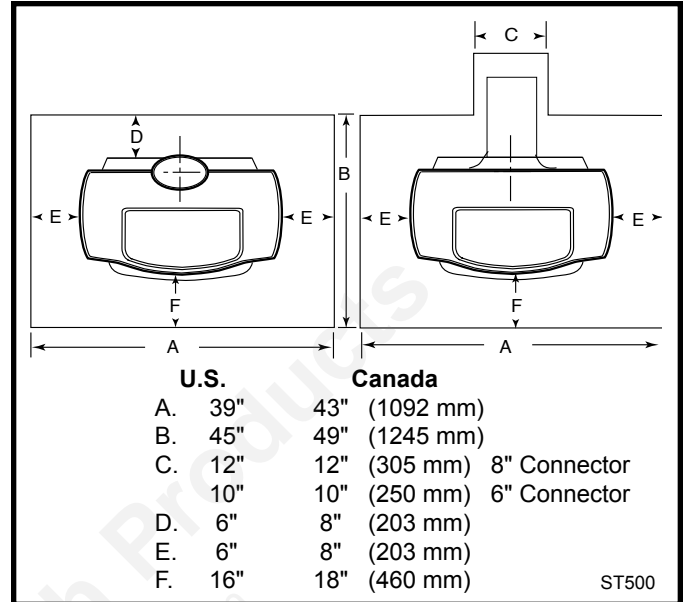

Fig. 11 Required floor protection dimensions.
**In U. S. installations** the floor protector is required under the stove and must extend at least 16" (not including the ash lip) from the front of the stove ("F," Fig. 11), and at least 6" from the sides and rear. ("D" and "E," Fig. 11)
In rear venting configurations, floor protection must also extend under the chimney connector and 2" to either side. ("C," Fig. 11) For the 8" (203 mm) connector, the protector must be a minimum of 12" (305 mm) wide. For the 6" (152 mm) connector, the protector must be 10" (254 mm) wide. The protector must be centered under the connector.
**In Canada:** A noncombustible floor protector is required under the stove as well. The floor protector must extend 18" (457 mm) to the front ("F," Fig. 11), and 8" (203 mm) from the sides and rear. ("D" and "E," Fig. 11)